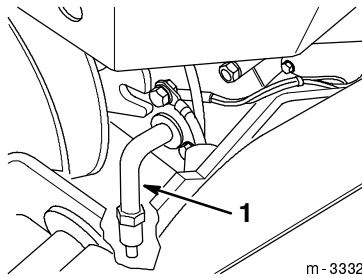

Figure 30
6. Open the drain by turning it counterclockwise 1/8 turn and pulling out on it (Fig. 30).